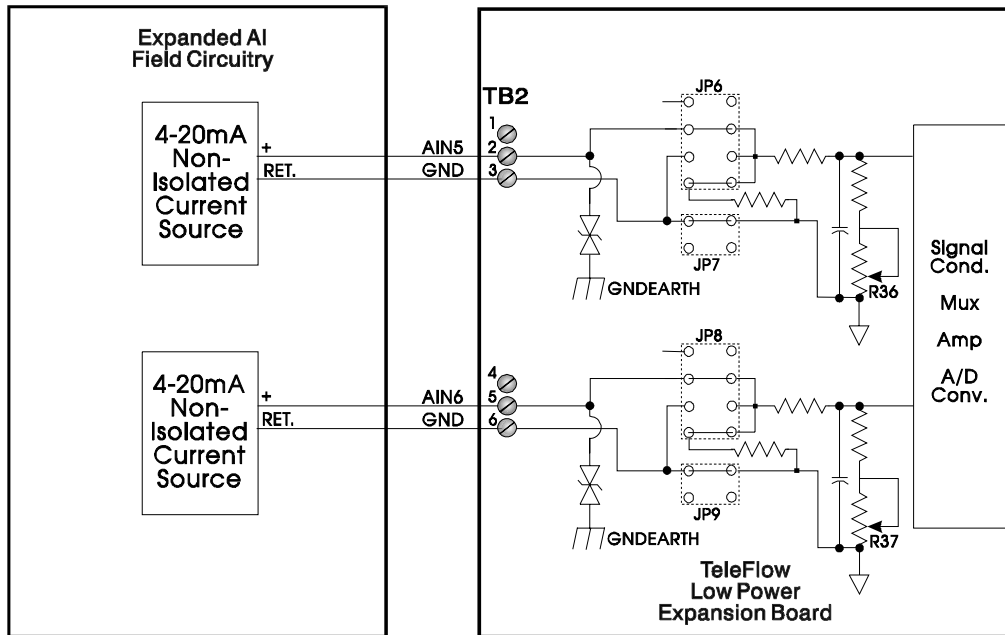

Figure 6 - LPI/OEB Non-Isolated 4-20mA Current Source AI Configuration
2.2.3 LPI/OEB Analog Input Wiring (TB2) (see Figures 6 through 8 and Table 5)